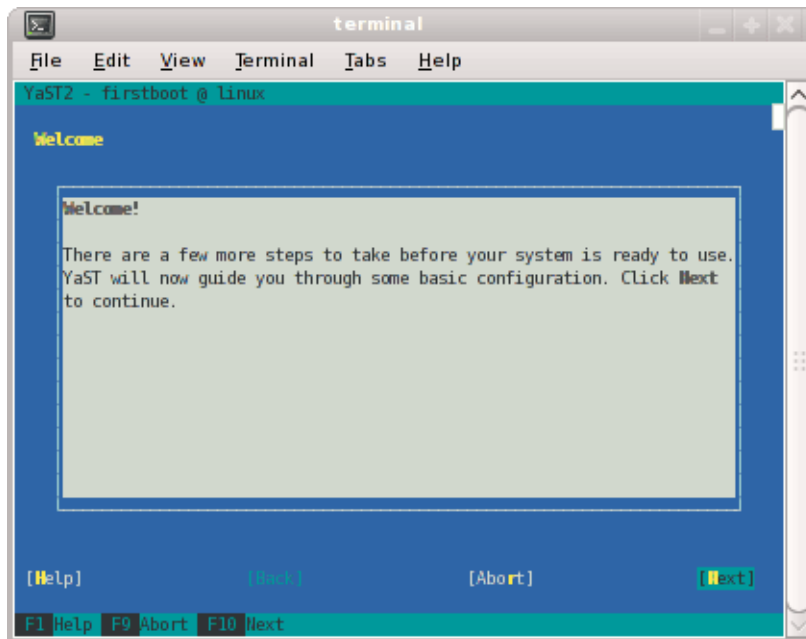

Figure 2-9 YaST2 - firstboot@Linux Welcome Screen
2. After the reboot completes from the first five steps you followed in the SLES10 Admin Node Installation instructions, you will eventually see the **YaST2 - firstboot@Linux Welcome** screen, as shown in Figure 2-9 on page 44. Click on the **Next** button to continue.